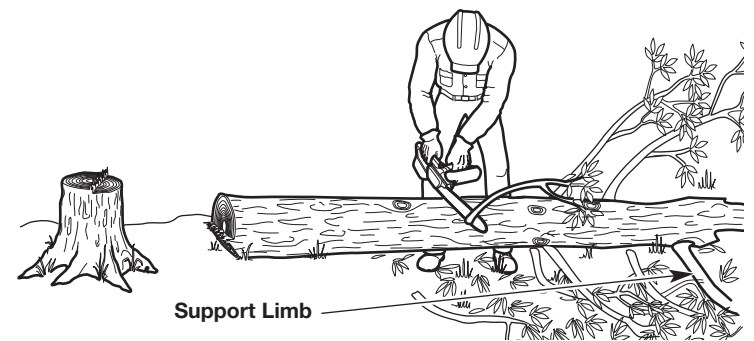

Fig. 21
1. Leave the larger support limbs under the tree for last (Fig. 21). These will keep the tree off the ground during the limbing process.
2. Cut one limb at a time. Stand on the opposite side of the tree from the limb (Fig. 21). Keep the trunk between the operator and the chain saw. To avoid binding the chain saw, branches under tension should be cut from the bottom up.